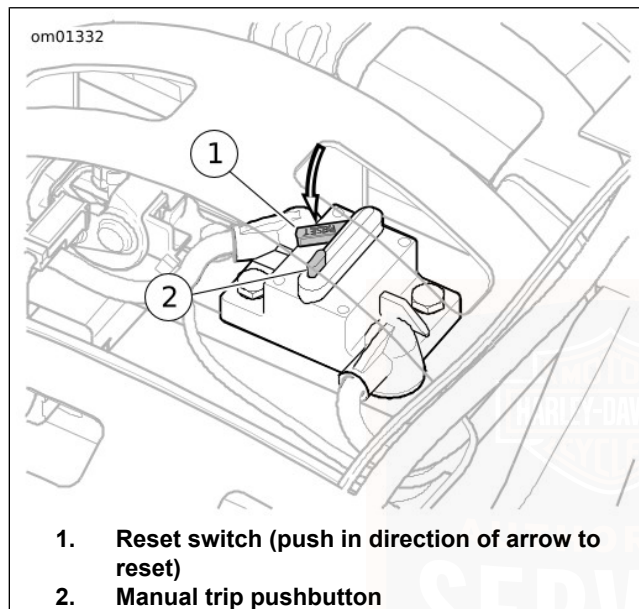

Figure 67. Reverse Motor Circuit Breaker
See Figure 67. The circuit breaker is located under the passenger seat. This manually resettable circuit breaker has a trip pushbutton (2) and a reset switch (1). To manually trip the circuit breaker, push down on the trip pushbutton (which causes the reset switch to extend out).